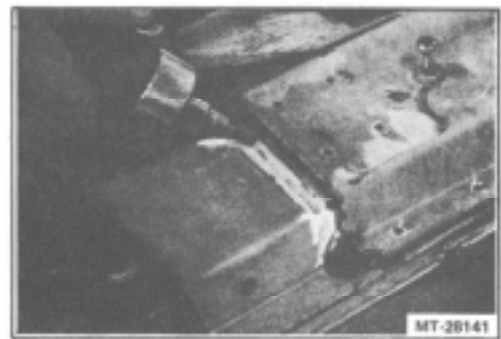

Figure 43. - Removing Old Adhesive From Panels
3. Use a coarse grinder or burr to clean old adhesive from between panels (Figure 43). Use an air gun to remove dust from the bonding surfaces. Then, wipe the surfaces clean using an acetone solvent.